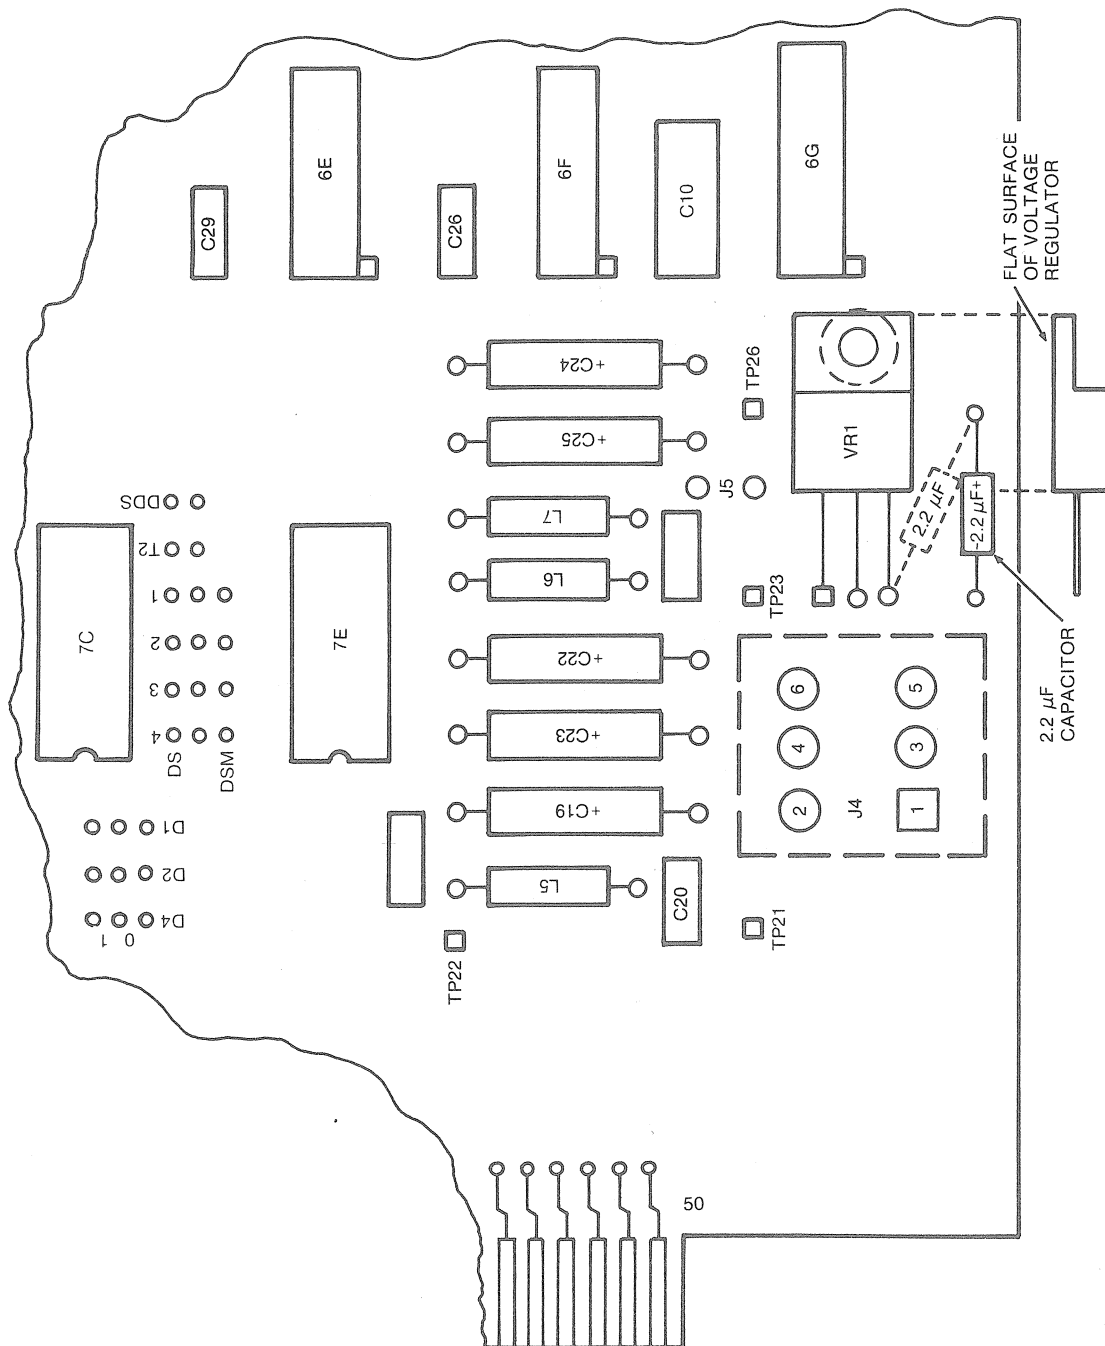

FIGURE 3-18. SECTION OF PCB (COMPONENT SIDE) FOR IMPLEMENTATION OF NEGATIVE DC POWER OPTION
2. Remove the PCB from the drive and then remove the jumper wire from location J5 (see Figure 3-18).
- a. If the 2.2 μ F capacitor on the component side of the PCB is mounted as shown by the dotted lines in Figure 3-18, remove it.
- b. If the 2.2 μ F capacitor is mounted as shown by the solid lines in Figure 3-18, leave it in place. Ensure that the negative side of the 2.2 μ F capacitor is soldered to the output of the negative regulator pin (see Figure 3-18).
4. If step 3a was necessary, use the new 2.2 μ F capacitor and install it as shown by the solid lines in Figure 3-18. Ensure that the negative side of the 2.2 μ F capacitor is soldered to the output of the negative regulator pin (see Figure 3-18).
5. Install the -5V negative voltage regulator so that its flat surface is against the component side of the PCB (see Figure 3-18).